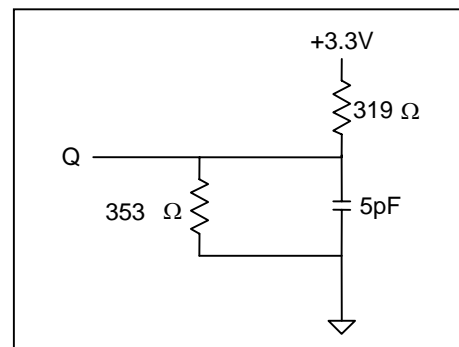

Figure 2
3. The load used for V_{OH}, V_{OL} testing is shown in Figure 2. AC load current is higher than the shown DC values. AC I/O curves are available upon request.
2. Output loading is specified with C₁=5pF as in Figure 2.